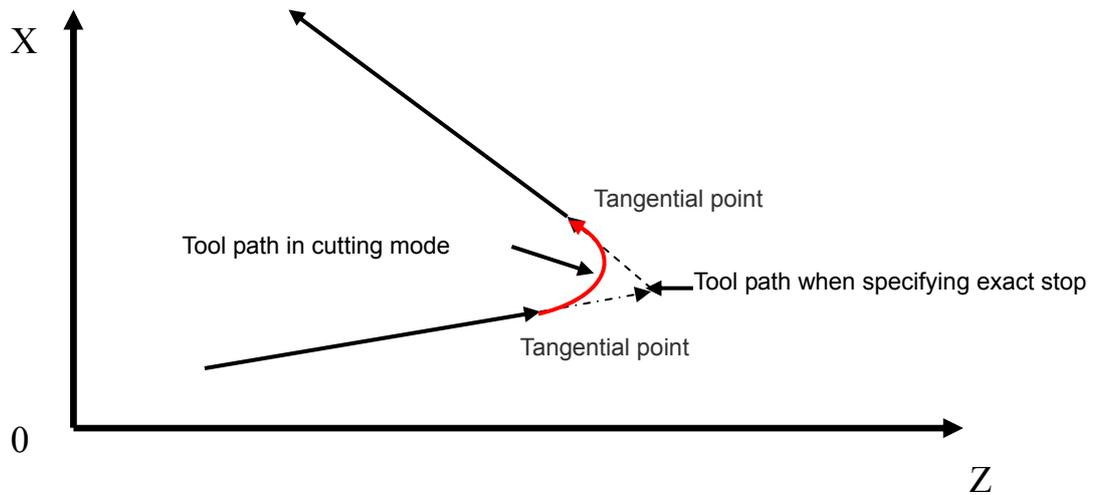

Fig. 2-27
2. G64 is modal, valid and default before G61 is commanded. G64 path is different from that of G61 as Fig. 2-27;